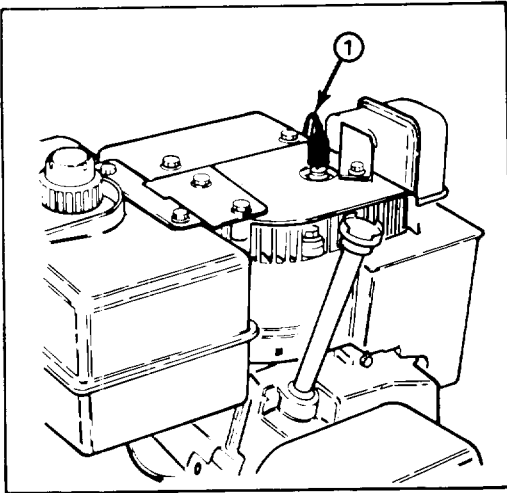

Figure 33
1. Clean area around spark plug so foreign matter cannot fall into cylinder when plug is removed (Fig. 33).